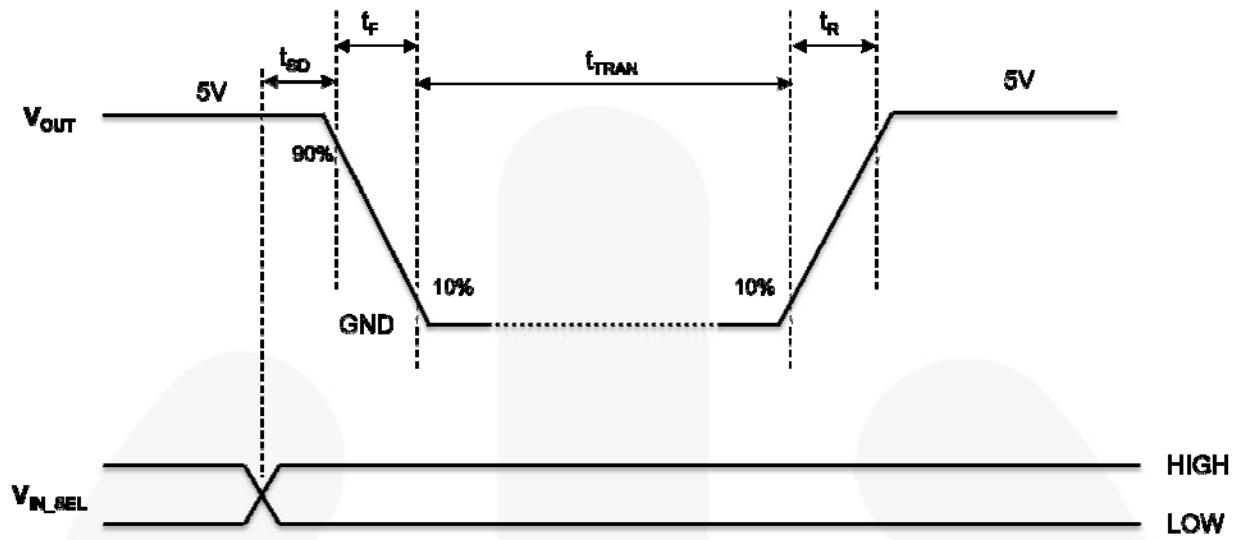

Figure 5. Transition Delay ( $V_{IN}=V_{BUS}=5$  V)
7.  $t_{SD}/t_{TRAN}/t_R/t_F$  are defined in Figure 5.